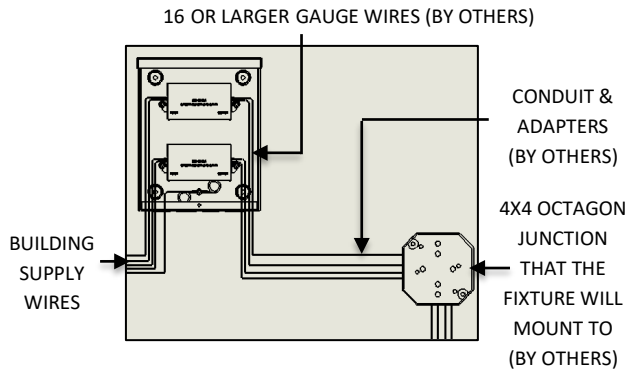
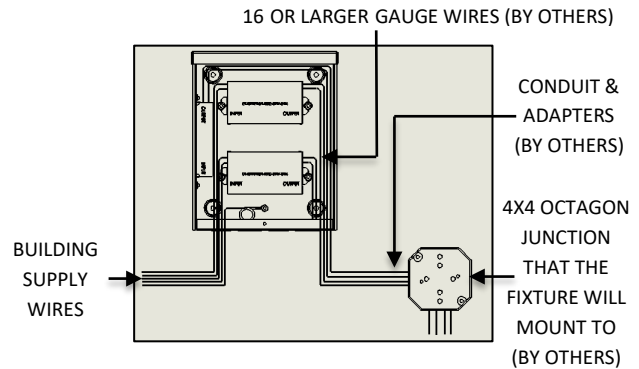

FIG. 10 – TWO DRIVER REMOTE BOX SETUP FOR 24" & 36" SERIES
FIG. 11 – THREE DRIVER REMOTE BOX SETUP FOR 48" SERIES
5. Depending upon the size of the fixture (see WIRE DIAGRAM TABLE on Page 5 for correct Wire Diagram) run (1) set of positive and negative 16 or larger gauge wire (by others) or (2) set of positive and negative 16 or larger gauge wire (by others) from the REMOTE DRIVER HOUSING to the junction box the fixture will mount to (by others). Inside the REMOTE DRIVER HOUSING, connect:
- Dimming wires as shown on the driver in FIG. 10 and FIG. 11 below.